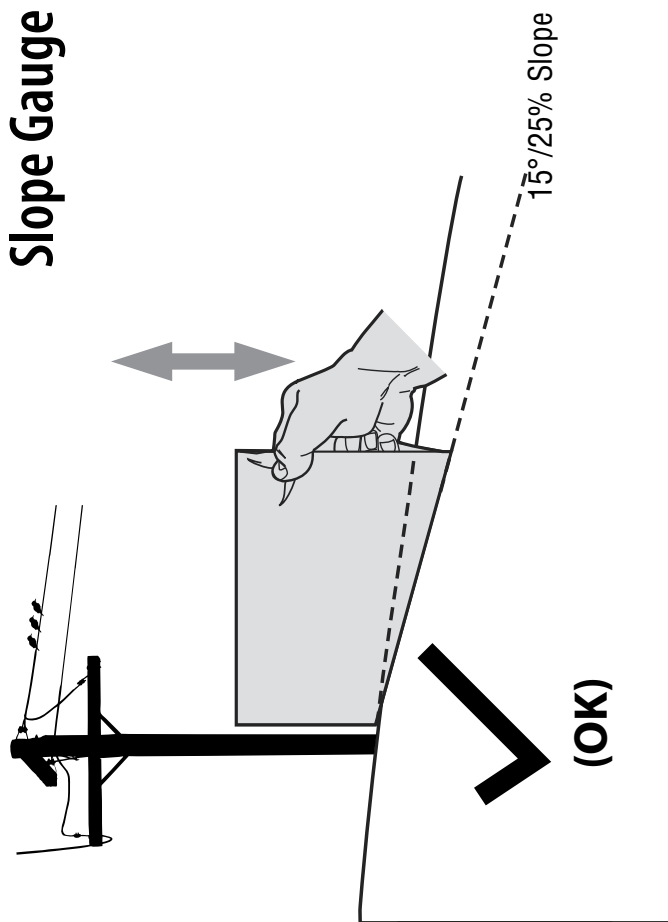
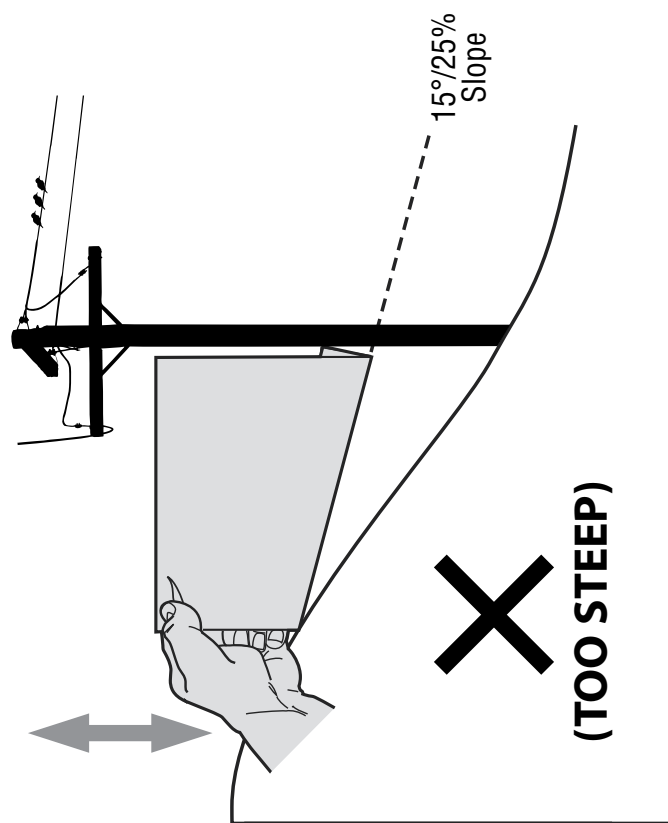

Figure 1
Figure 2
3. Align either side of the slope gauge with the object (See Figure 1 and Figure 2).
4. Adjust gauge up or down until the left corner touches the slope (See Figure 1 and Figure 2).
5. If there is a gap below the gauge, the slope is too steep for safe operation (See Figure 2 above).
Figure 1 illustrates the assembly of the robot chassis. (a) shows the motor and gear assembly being attached to the chassis. (b) shows the chassis being attached to the robot body. (c) shows the completed assembly.